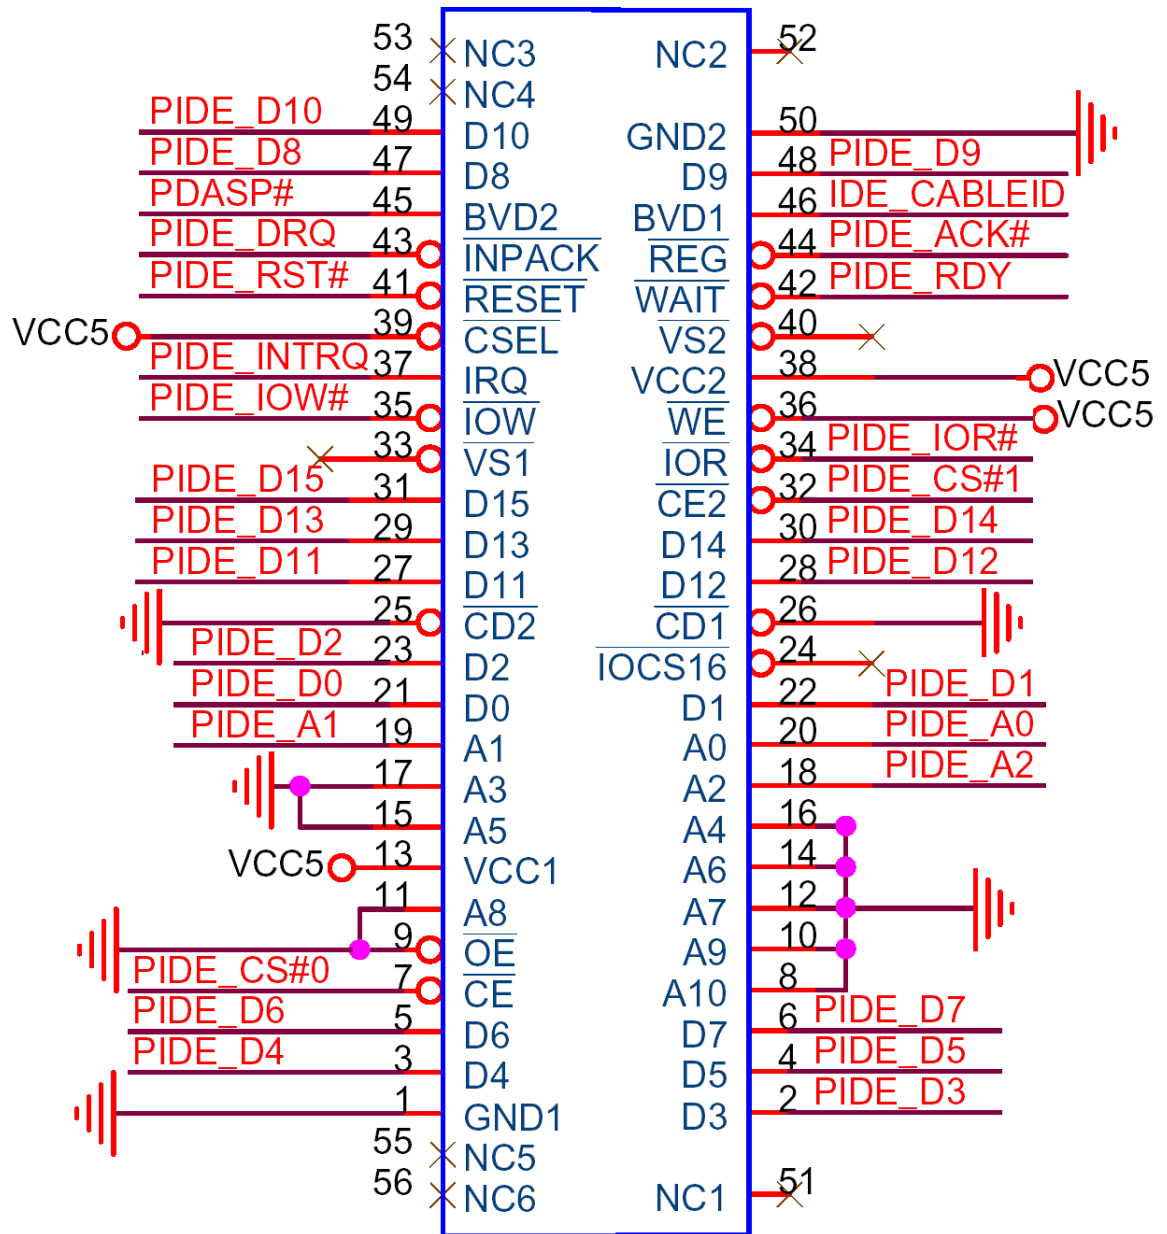

Figure 4-8: CF Card Socket Location
- CN Location:** See **Figure 4-8**